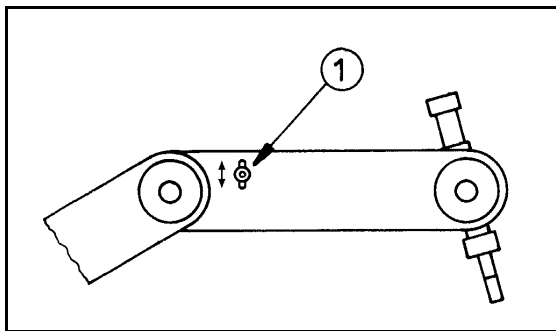

Figure 16: Tightening Belts in Forearm
- Figure 16 shows how to tighten the belts in the forearm which move the wrist axes (pitch and roll). Loosen the two screws (1) which hold the tension shaft. Press down on the shaft and retighten the screws.